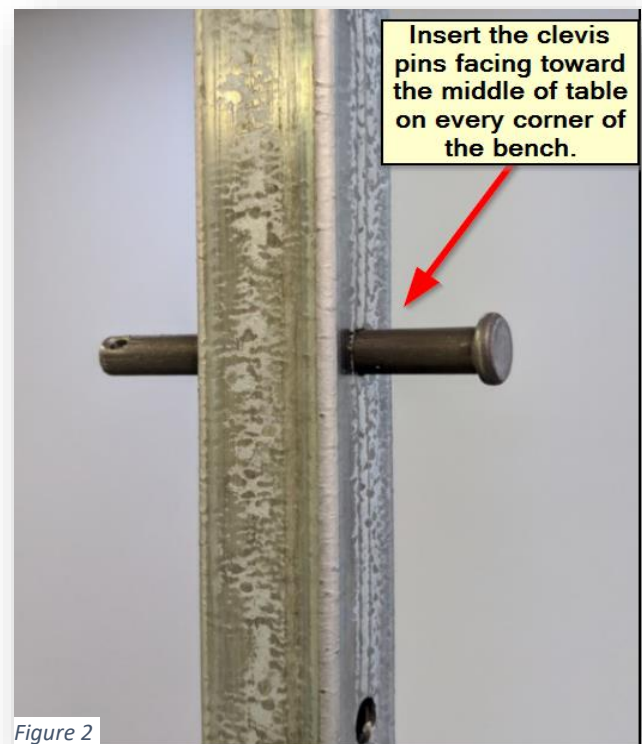

Figure 2
2. Once you have all the upright posts installed, take the clevis pins (**A14**) and insert them into the holes (same level) on all the upright posts (**PS3**). (see *Figure 2*).